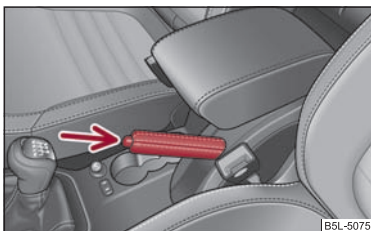

Fig. 111 Centre console: Handbrake
- Pull the handbrake lever up slightly and **at the same time** press in the locking button ⇒ fig. 111.